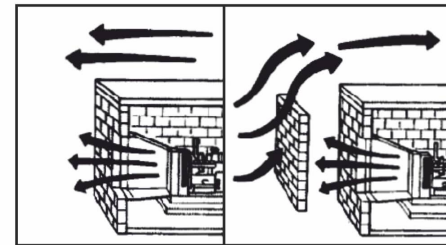

Figure 4.1
- Distance of the wind barrier from the room should be at least three times radiator core height. (figure 4-1)
While calculating wind barriers placement from D.G. room, radiator core height can be helpful. Calculated distance should be at least 3 radiator core height away from D.G. Room. (figure 4-1)